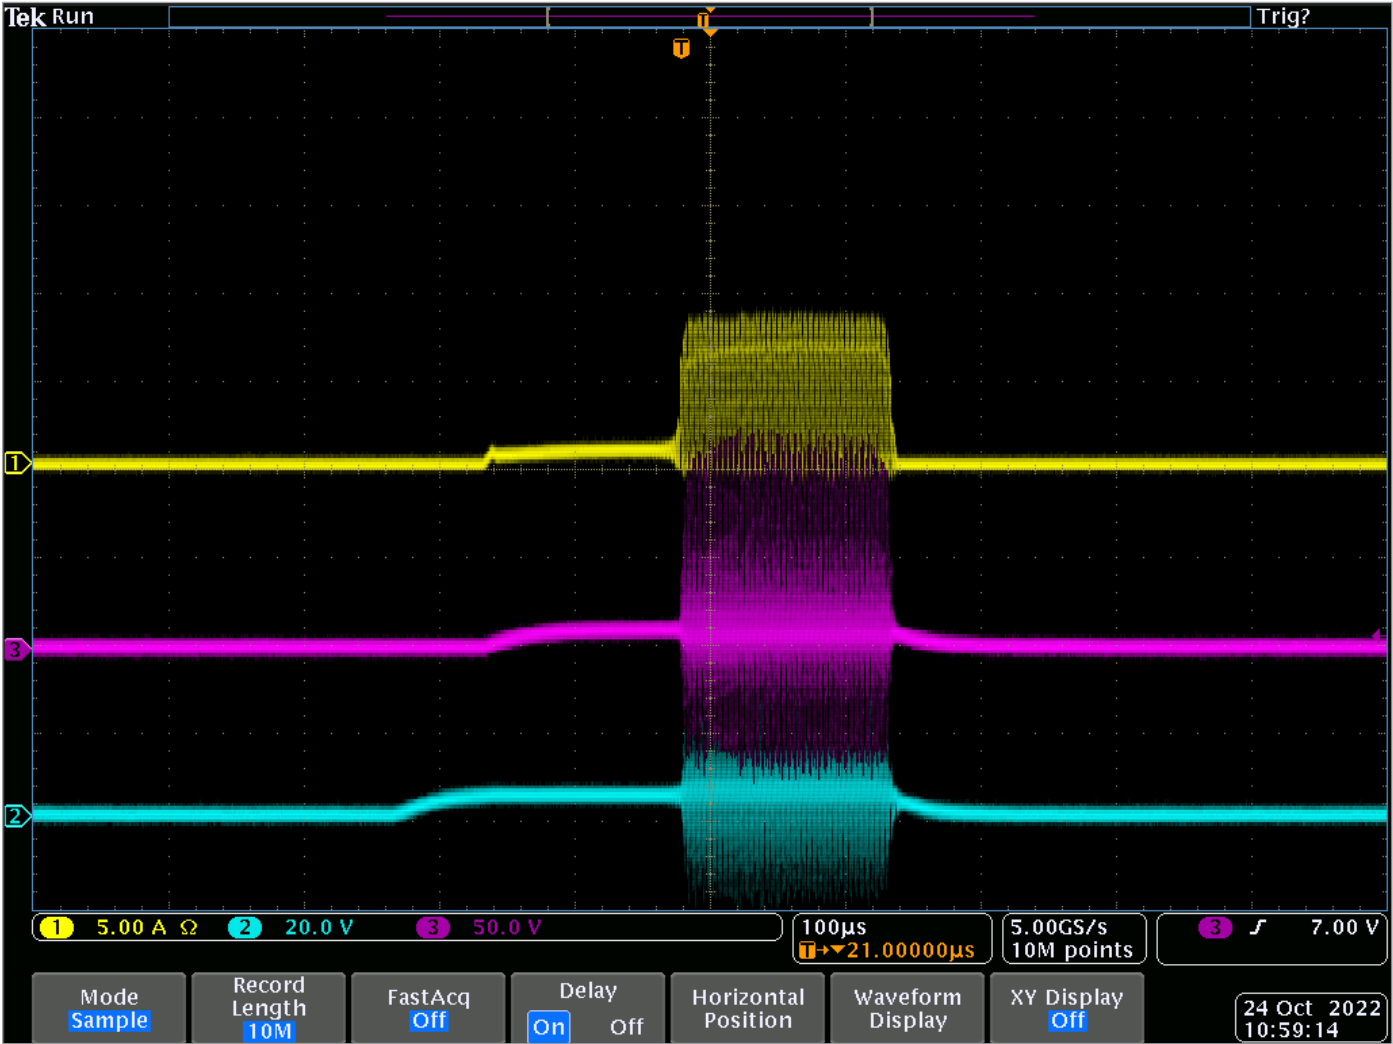
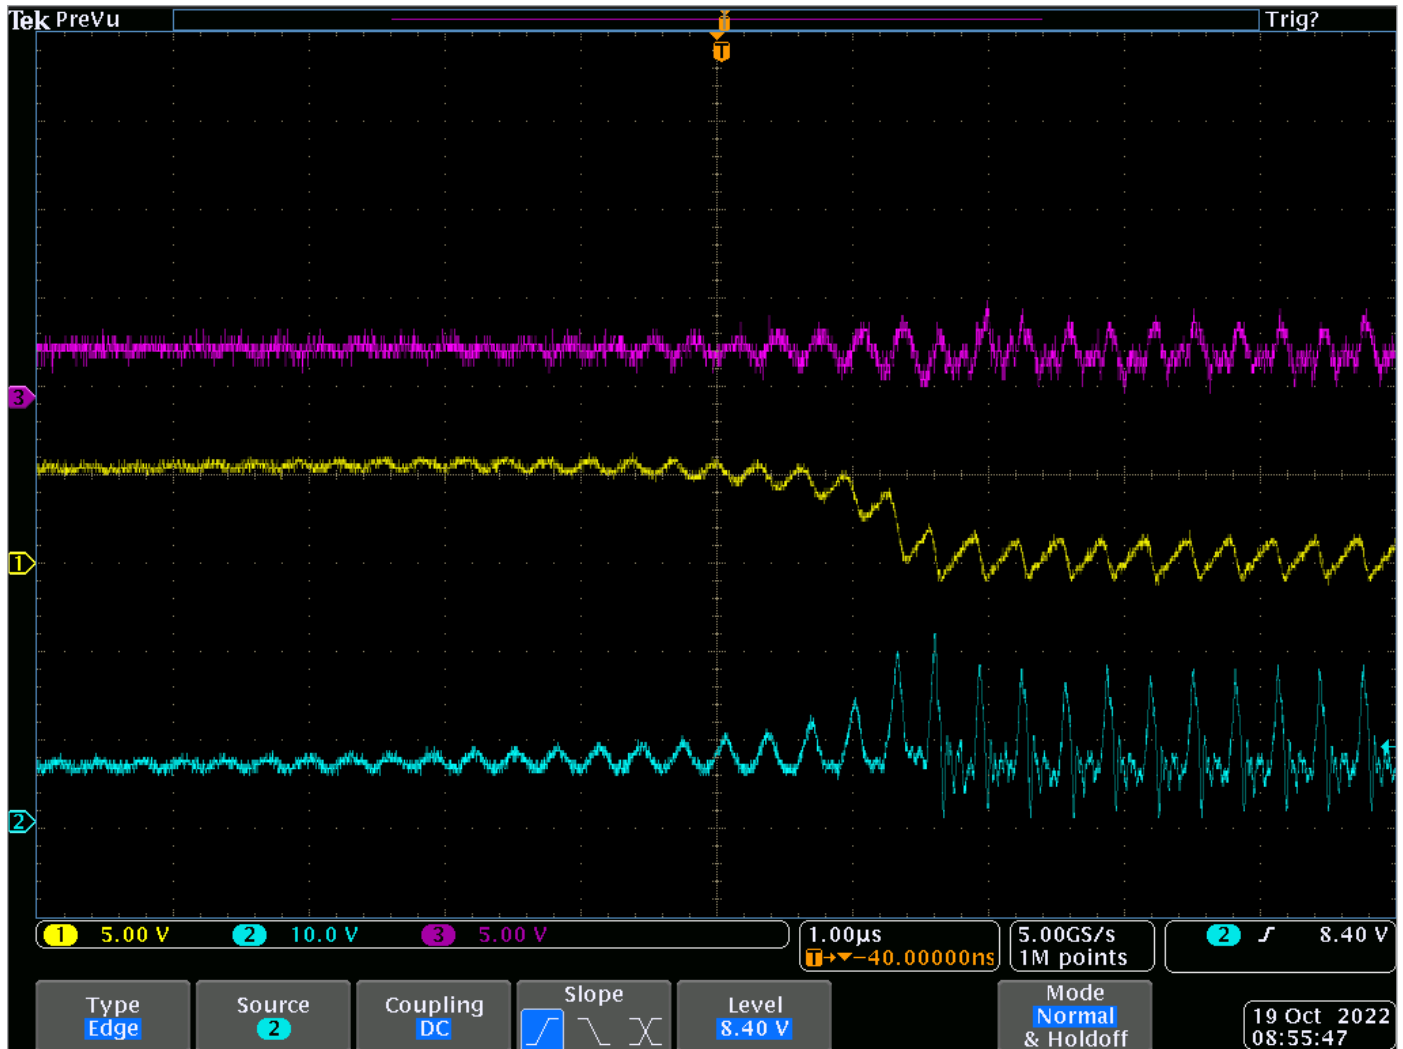
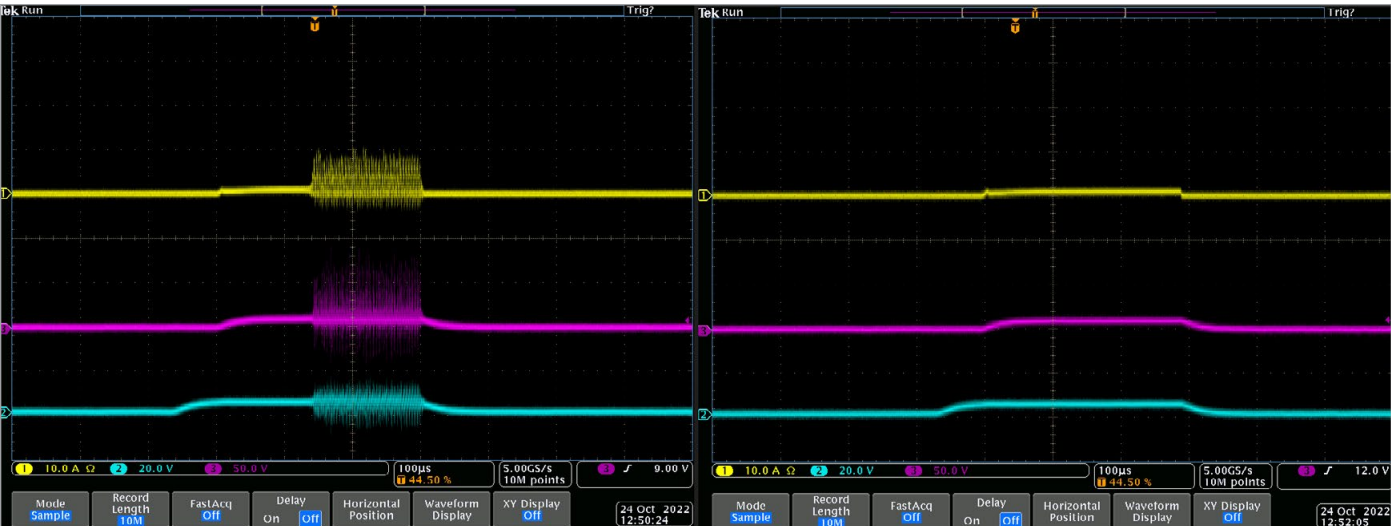

Figure 7. Single waveform capture of the sweep measurement (yellow – drain I, magenta – drain V, blue – gate V).
Figure 8. Zoom-in on the high frequency oscillation (yellow – drain I, magenta – gate V, blue – drain V).
Figure 12. Ferrite bead effectiveness on drain (left - without ferrite bead, right - with ferrite bead) (yellow - drain I, magenta - gate V, blue - drain V).
structures. **Figure 6** shows the oscilloscope waveform of the I-V characterization where oscillations are observed in the signals of drain current, drain voltage, and gate voltage each. **Figure 7** shows the single waveform of the sweep measurement, while **Figure 8** magnifies the oscillation with a frequency higher than 3 MHz for this GaN HEMT device, well beyond DC instrument band.
In most cases, oscillation can be solved in proper cabling to the test fixture. However, the oscillation may persist in cases where long cables are used in connection to a probe station, among other reasons. The basic characteristics of ferrite beads are similar to inductors, though their high frequency impedance characteristics are different from those of inductors. In comparison to inductors, ferrite beads have a high resistance (R) component and low quality factor (Q), pushing them to act more like resistors at high frequency and eliminating energy storage - characteristics commonly utilized for suppressing high frequency oscillation and noise. **Figure 12** shows the ferrite beads at work (added on the drain terminal and as close to the device as possible) effectively eliminating the oscillation presented in the earlier example shared in **Figure 7**. Placing the bead on drain is much more effective than on gate terminal.